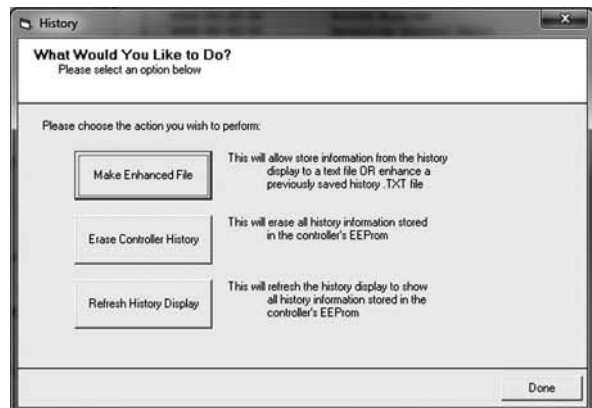

FIGURE 51
9. **History:** This button opens the History window with options to save the current history file, erase the current history file, and refresh the history file (see Figure 51).